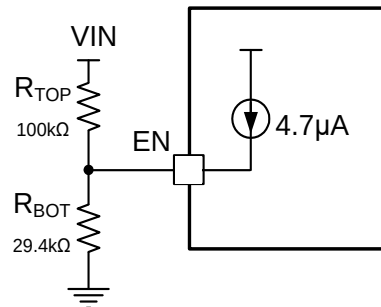

Figure 6: V_{IN} UVLO Program
The MPQ4214 features a programmable UVLO hysteresis. When powering up, EN sources a 4.7μA current out of the EN pin once the EN voltage exceeds 1.35V (see Figure 6). V_{IN} must decrease to overcome the current source and stop switching after the IC starts. The V_{IN} start and stop switching thresholds are determined with Equation (1) and Equation (2), respectively: